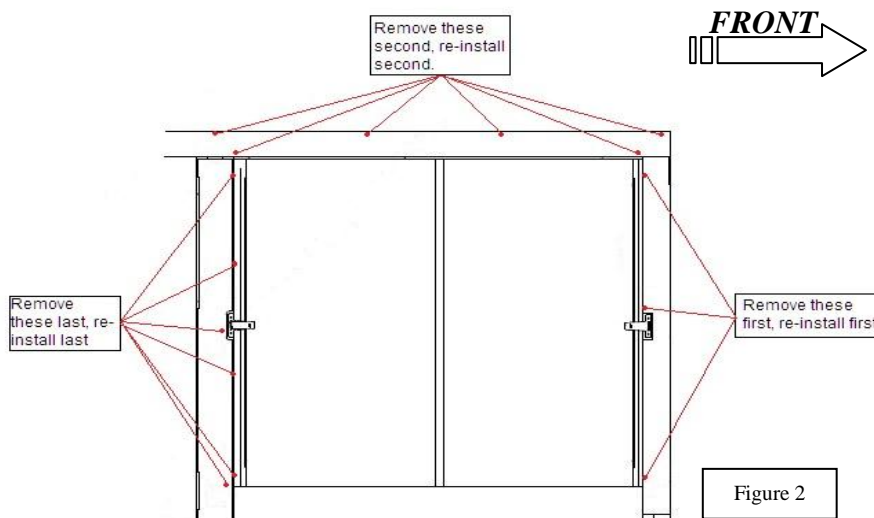

Figure 2
2. Remove all screws in the upper trim and retain. (Figure 2)
3. Remove all screws from the rear trim and retain. (Figure 2)